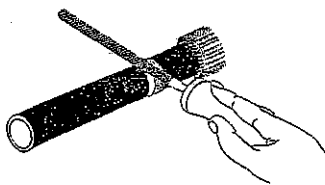
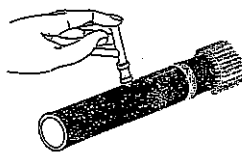

Fig.3a
Fig.3b
- 1g) For cables with Extruded Semi-Conducting Layer perform operations 1c) to 1f) but remove the semi-conducting layer using a special fixed depth scoring tool see Fig.3b. alternatively using a round file abrade an annular groove through the semi-conducting layer adjacent to the PVC binder ensuring the groove cuts through to expose the white underlying insulation see Fig.3a